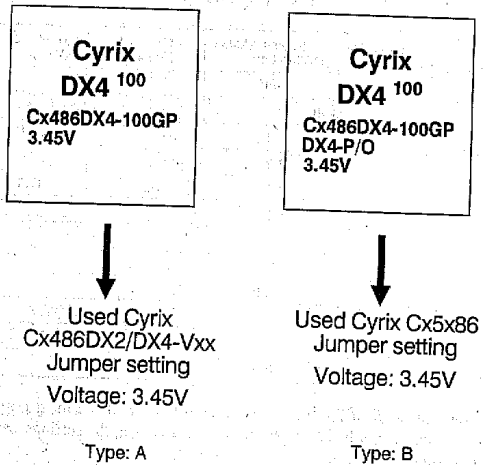

Figure:1
1. Identify your Cyrix DX4-100 according to figure: 1. They can be easily differentiated from the "DX4-P/O" notified on top of Type: B Cyrix DX4-100.